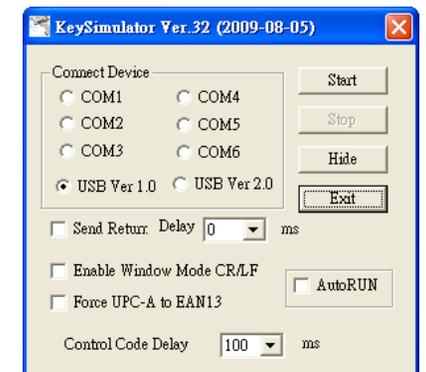

Figure 1
4. Choose a COM port number and click "Send Return" (Figure 1).
5. Click "Start" to complete the setup procedure (Figure 1).